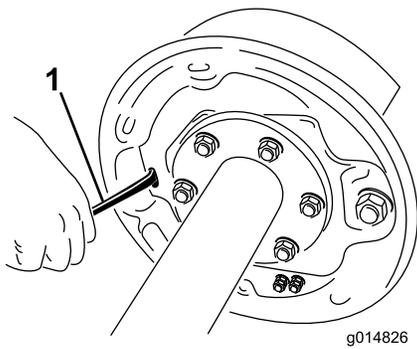

Figure 51
4. With a screwdriver, rotate the star wheel of the adjuster assembly to expand the brake shoes (Figure 51).